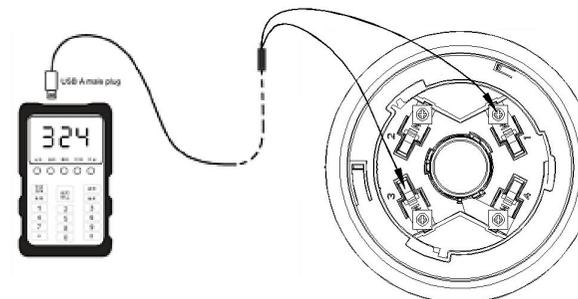

Fig.3
2. Coding address: The Sounder Beacon Base must be encoded address by a special coder (CODER-F900E) before the installation. Fig.3 shows the wiring diagram of the Sounder Beacon Base and coder. After wiring, press the “#” key to select “324” mode, set the coder with the coding function, then select the correct address number and press the “RUN/STOP” key to complete the address code setup. (Note: See the User’s Manual of the coder for the detailed operation.)